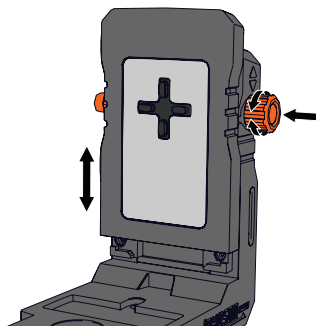

Figure 13
3. To make micro adjustments to the vertical position of the laser, push the micro-adjust knob on the base accessory in to unlock it. Rotate the knob to raise or lower the attachment plate. The position can be adjusted from 1/32" to 1". Release the knob to lock the position. (Figure 13)